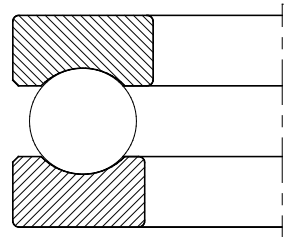

Fig. 2.16
**Single direction thrust ball bearings** (fig. 2.16) consist of a shaft (i.e. small bore) and housing washer (i.e. large bore) each having a face raceway groove. These washers are separated by a cage and ball assembly.